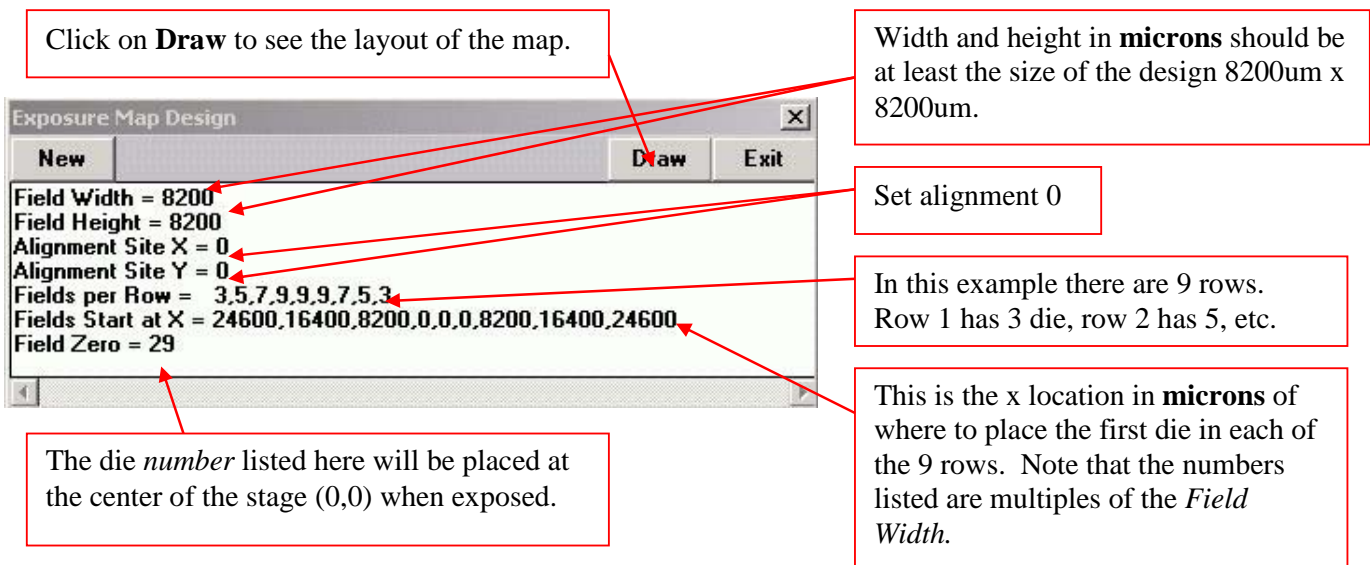

Figure 3-3: Example exposure map
- **DWL MENU:** From the main menu navigate to “*Setup* → *Exposure Map*”. The Exposure Map Design window will appear similar to the one in figure 3-3.
- **DWL MENU Exposure Map Design:** For the example given in figure 3-3 the field (design) size was 8200um x 8200um (*Field Width* and *Field Height*). A layout of die in the shape of a 4" wafer was wanted so that there were a different number of fields in each row (*Fields per Row*). The first field in the first 3 and last three rows needed to be started the distance of several fields from 0um in the x direction (*Fields Start a X*). Note that the distances given in figure 3-3 are multiples of the *Field Width*. The field at the center of the layout was chosen to be field 29 (*Field Zero*). Note that the *Field Zero* will be exposed at the defined center position of the stage (0,0).